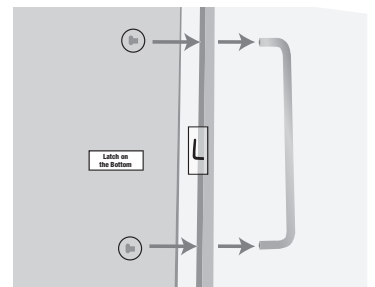

Figure 2
5. Position the screws, the front of the drawer and the door handle so that they all line up with the two holes cut into the drawer handle. (See Figure 2).